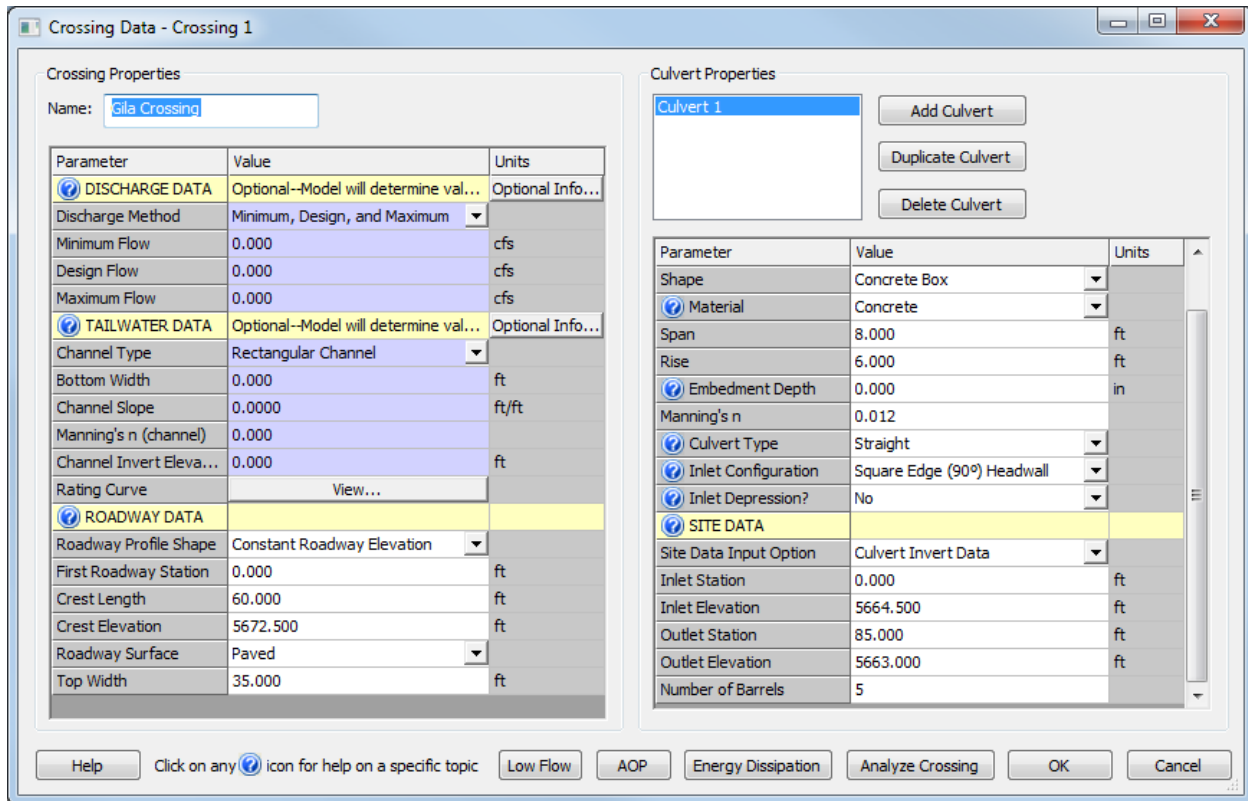

Figure 5 HY-8 Crossing and Culvert Inputs
11. When done the dialog should resemble Figure 5 . Click **OK** to close the *Crossing Data* dialog.